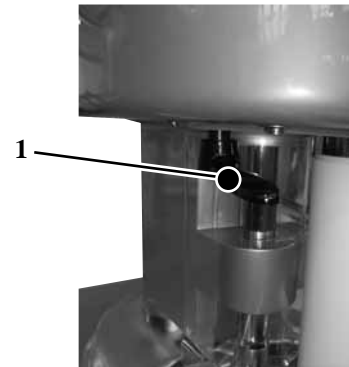

Fig. 19
3. Check that the DETACH/SPREAD spatula lever is in position (Ref. 1 - Fig. 19).